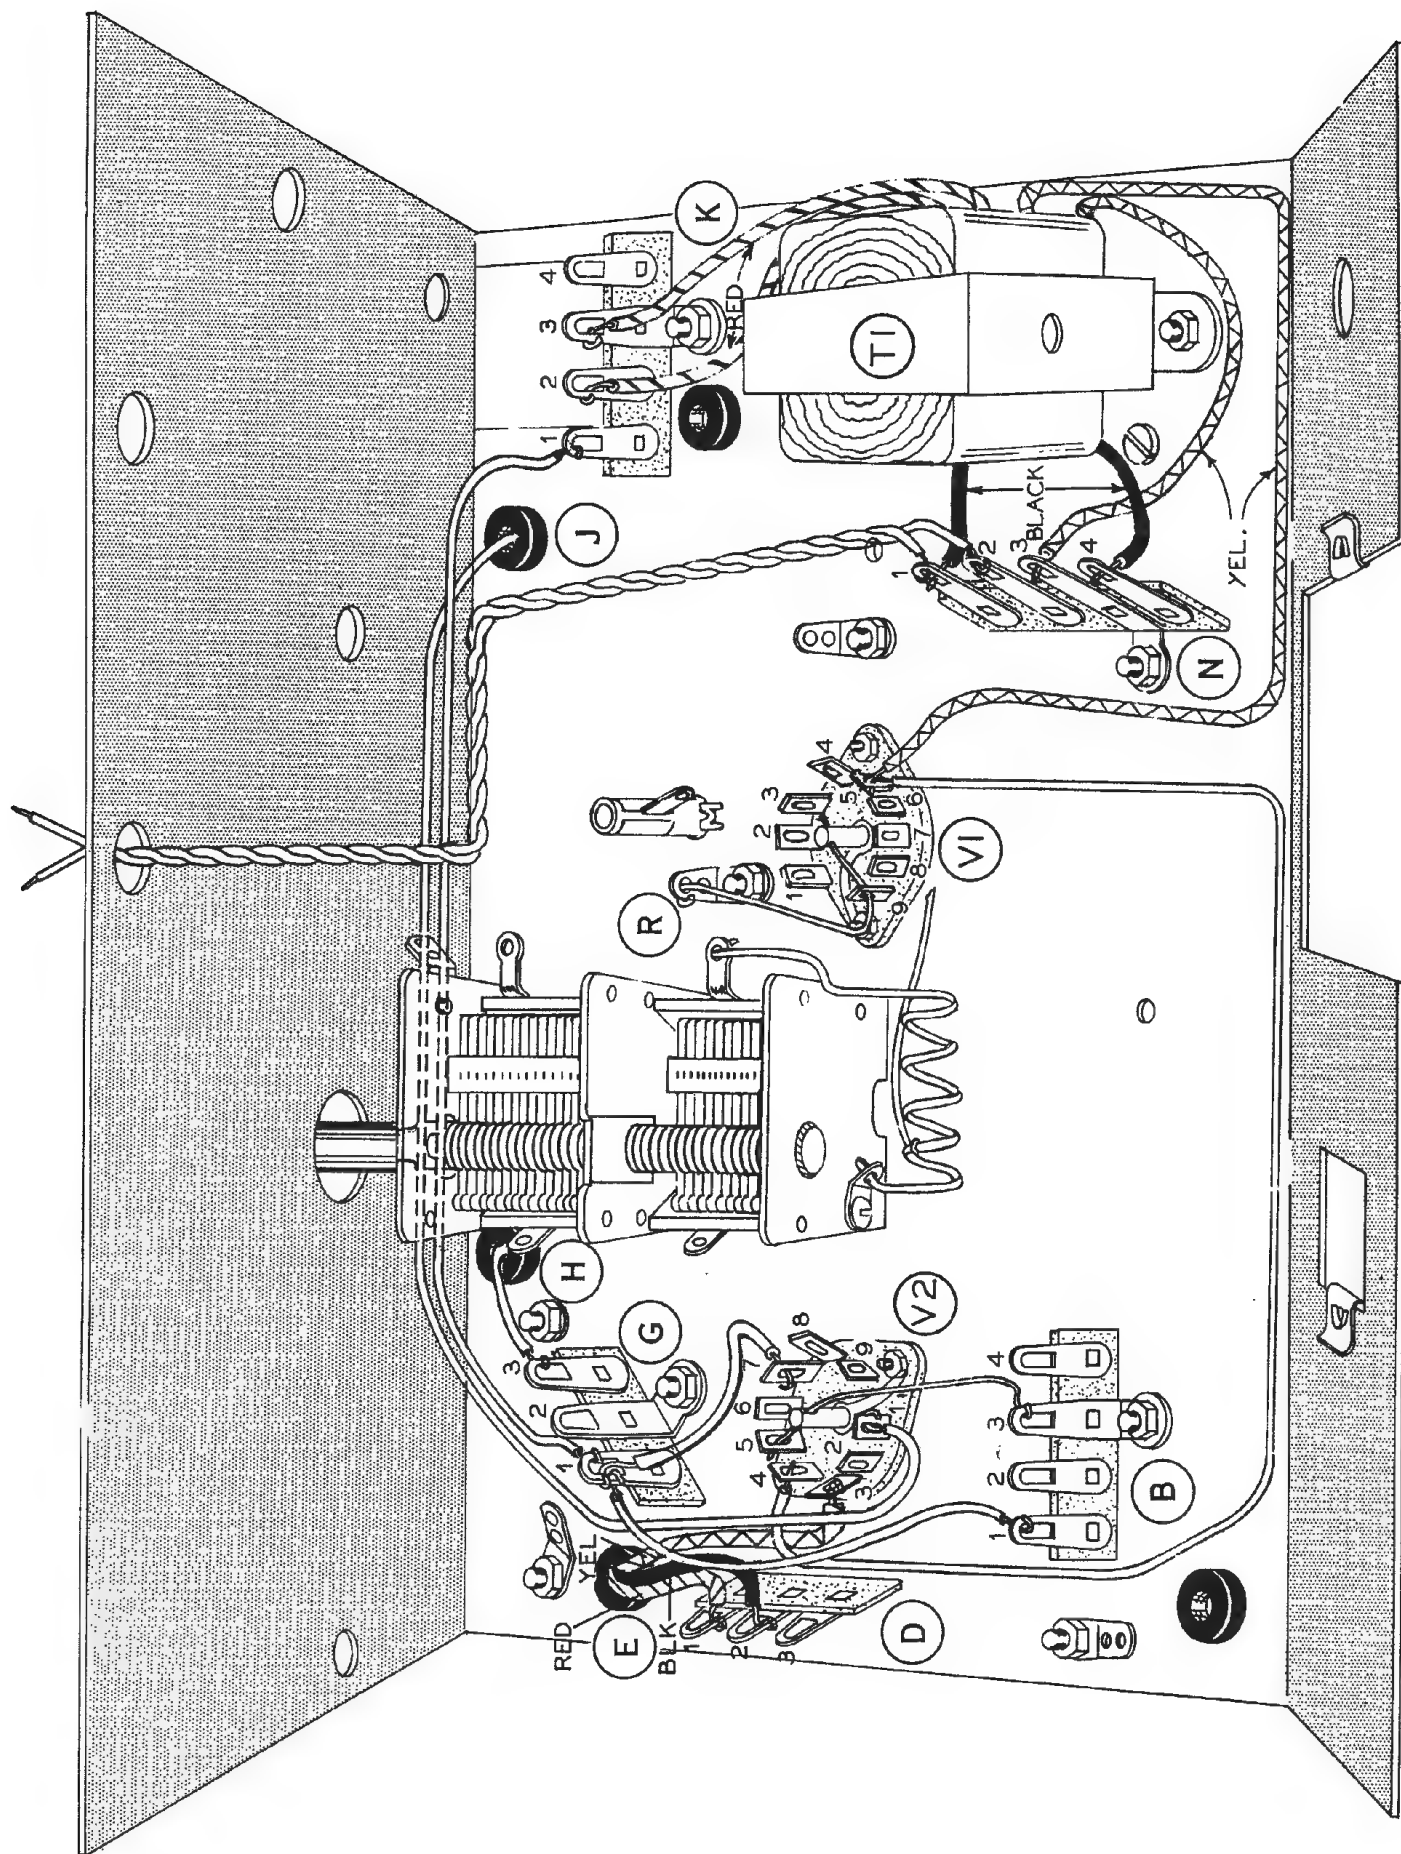

Figure 3
- () Refer to Figure 3 and feed the three wires from transformer T2 through Grommet E. Connect the yellow wire to pin 3 (NS) of tube socket V2.
- () Connect the black wire to lug 2 (NS) of terminal strip D.
- () Connect the red wire to lug 1 (NS) of terminal strip D.
- () Connect the long yellow wire from the power transformer T1 to pin 5 (NS) of tube socket V1. Dress wire as shown.
- () Connect the short yellow wire from T1 to lug 3 (NS) of terminal strip N.
- () Connect one of the black wires from T1 to lug 1 (NS) of terminal strip N.
- () Connect the remaining black wire to lug 4 (NS) of terminal strip N.
- () Connect one of the red wires from T1 to lug 2 (NS) of terminal strip K.